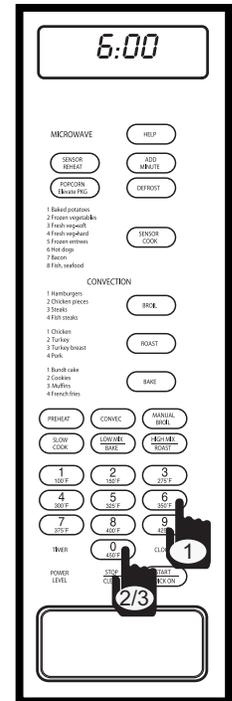

Figure 3-47. Enter Start Time
3. Enter desired start time. For example: 6:00; press the number 6 key and number 0 key twice (See Figure 3-47). The display will flash "PRESS - CLOCK".